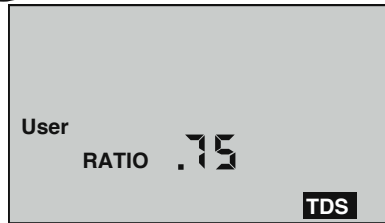

Figure 4
b. Press CAL / MCLR twice (to skip over tempco adjustment) and "RATIO" will appear (see Figure 4).